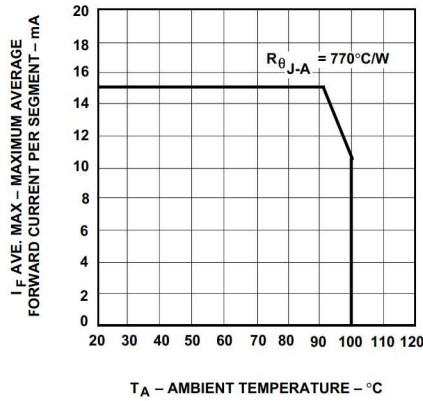

Figure 6. Maximum Allowable Average or DC Current vs. Ambient Temperature.
7. Derate above 91°C at 0.53 mA/°C (see Figure 6).